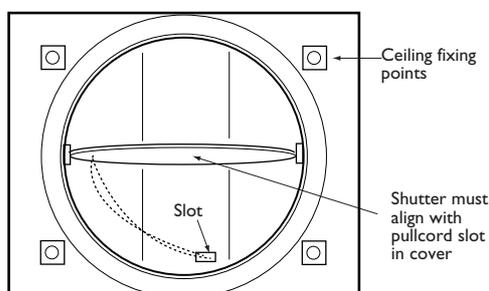

Fig. 2 The correct shutter alignment as supplied.
1. Note the position of the cover cord slot aligns with the shutter (see fig 2). Mark the frame and cover to ensure correct re-positioning later. Carefully unclip and remove the front cover, this is a push fit onto the grille frame. Withdraw the pullcord ends and lay the cover aside.
4. Affix the unit to the ceiling. Pass the pullcord ends through the cover and clip the cover onto the unit (See fig 2).
If the unit is dismantled it is vital that the position of the pull cord relative to the shutter is maintained otherwise shutter operation will be impaired. (See fig 2).
Is the cover is correctly aligned? (see fig.2).